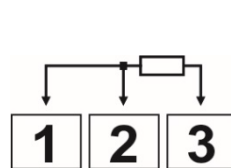

Figure 12 – 3-wire Pt100 connections
- **RTD (Pt100):** Figure 12 shows the connection mode for the 3-wire Pt100. You should use conductors of the same gauge and length to compensate for cable length. For 4-wire Pt100, you must leave one conductor disconnected at the controller. For 2-wire Pt100, use short-circuited terminals 1 and 2.